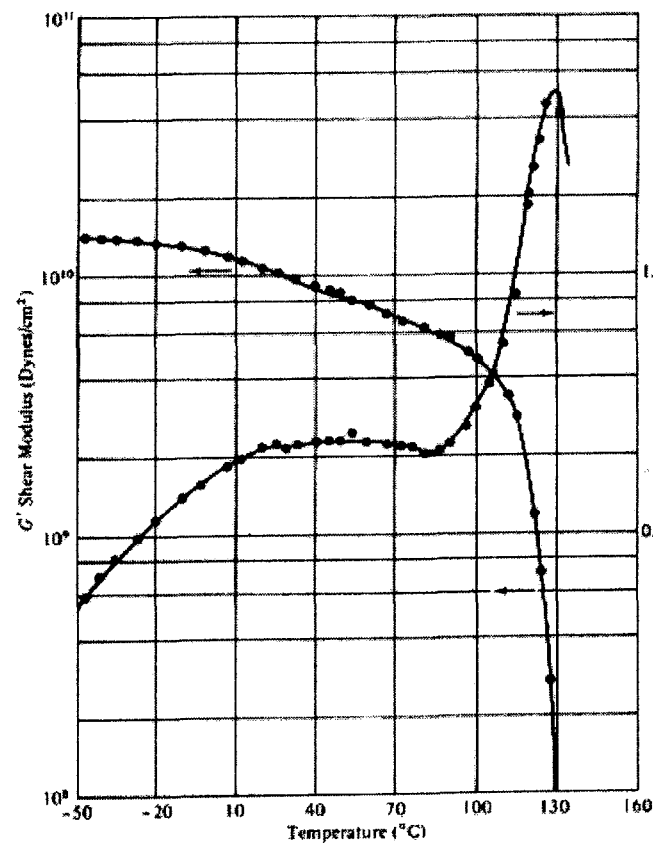

Figure 1: Dynamic mechanical properties of polymethyl methacrylate.
7. [a] The damping peak for polymethyl methacrylate in Figure 1 is located at 130°C. The data were obtained with a torsion pendulum at about 1 cycle/s. At what temperature would the peak be located if measurements were made at 500 cycles/s? For polymethyl methacrylate,  $T_g = 105^\circ\text{C}$ .